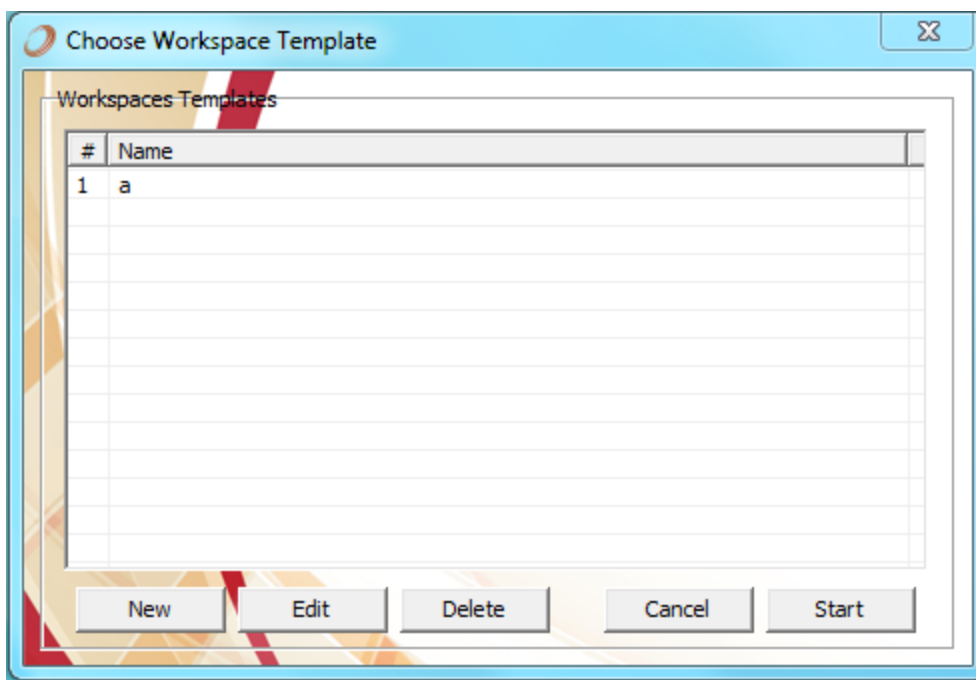

Figure 61: Choose Workspace Template Window
4. Click **Start Operation**. The Choose Workspace Template window (Figure 61) will appear.